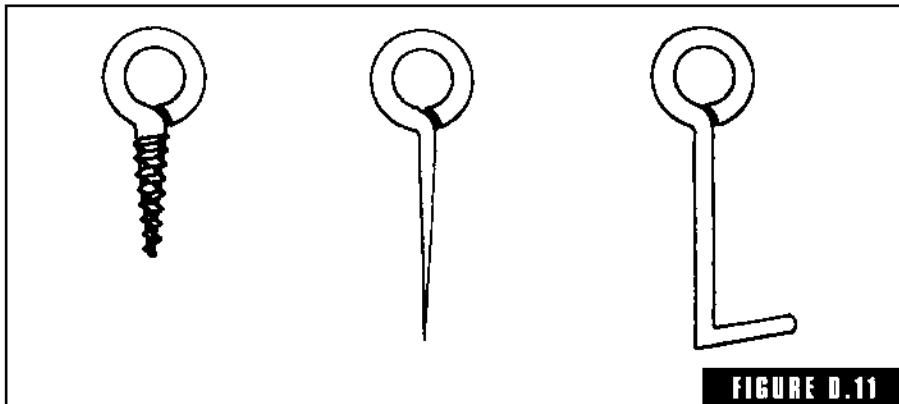

FIGURE D.11
**draw pins, screw, and hooks** These items are used to remove or draw the pattern from the mold (Fig. D-11). The draw pin is driven into the wooden pattern and used to lift it out as a handle. On a short small pattern one pin in the center will do it. If the pattern is long, use one on each end for a two-hand straight lift. The draw hook is used the same way. The draw screw is screwed into the pattern for a better purchase on heavier patterns and prevents the pattern from accidentally coming loose prematurely and falling, damaging the mold, pattern, or both. In large patterns, plates are let into the pattern at its parting face. This has a tapped hole into which a draw pin with a matching thread is screwed for lifting by hand or with a sling from a crane. Two or more are used.